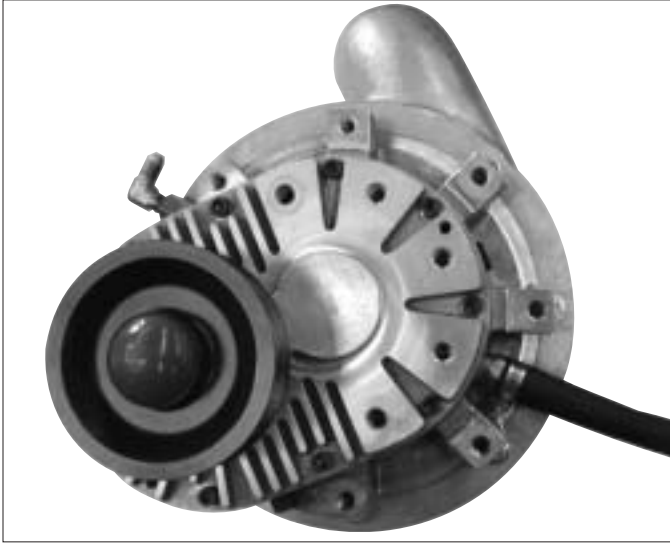

Fig. 3.3-a
- B. Measure and cut the supplied oil drain hose. Secure hose to drain fitting on supercharger using supplied clamp. (See Fig. 3.3-a.)
- C. Lower the supercharger into place making sure that the oil drain hose goes over the A/C line. (See Fig. 3.3-b.) This step may be different with some models. Make sure the drain hose has no kinks and is *not* lower than the drain fitting.